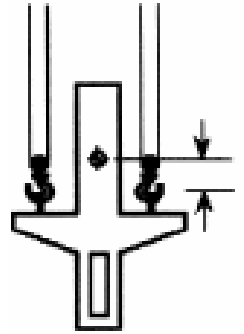

Fig. 25
**Fig.25** - This load is not stable. The hook is over the centre of gravity, but the centre of gravity is above the crane hook. This hook is top-heavy, and could overturn while being craned.